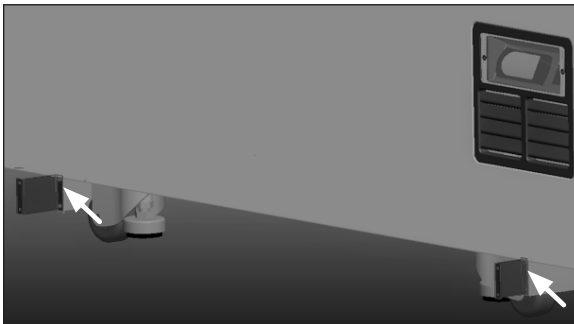

Fig. 13 Kickplate fixing plate
10. Install the kickplate fixing plate according to the position (Fig. 13) and use the screws delivered with the product, with the specifications of ST4.2 x 13.